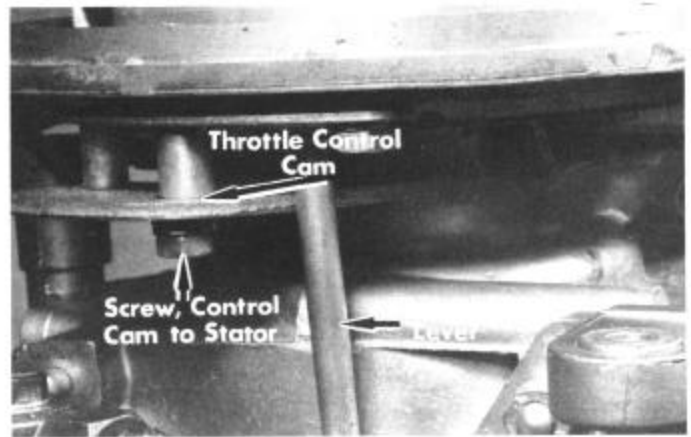

Figure 6.
A. Pickup Adjustment (Figure 6)